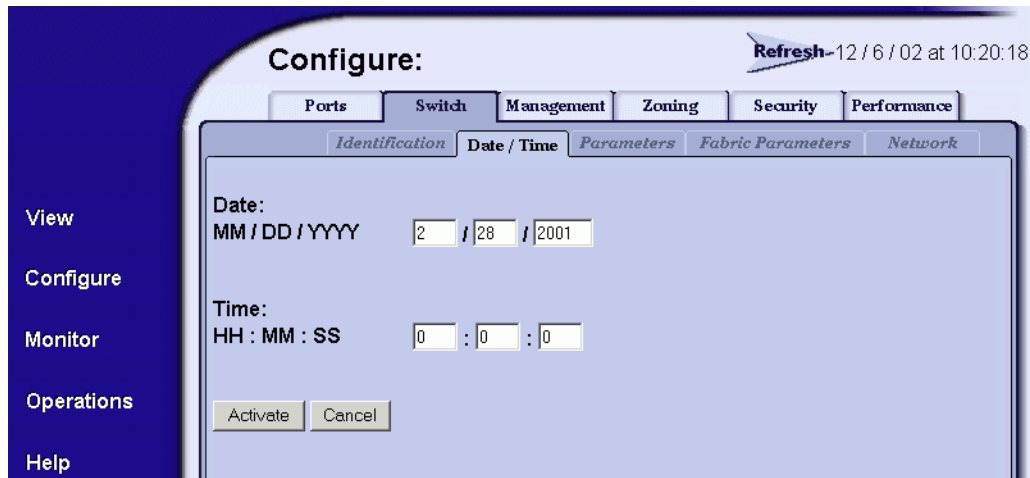

Figure 2-10 Configure Panel (Switch Page with Date/Time Tab)
1. At the *Configure* panel, click the *Date/Time* tab. The *Switch* page displays with the *Date/Time* tab selected (Figure 2-10 on page 2-19).